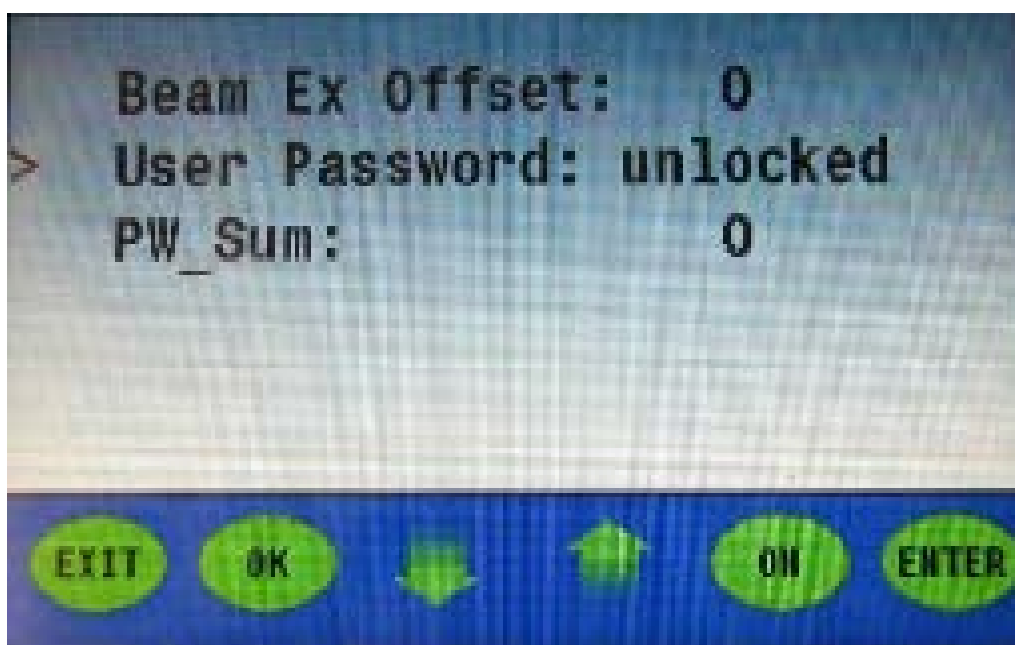

Figure 14
5. Press the **up arrow** to set the last digit for the password. Next, press the **enter button** to input the new password. Now, return to **“User Password: Unlocked”** on the main screen menu list (**figure 14**).